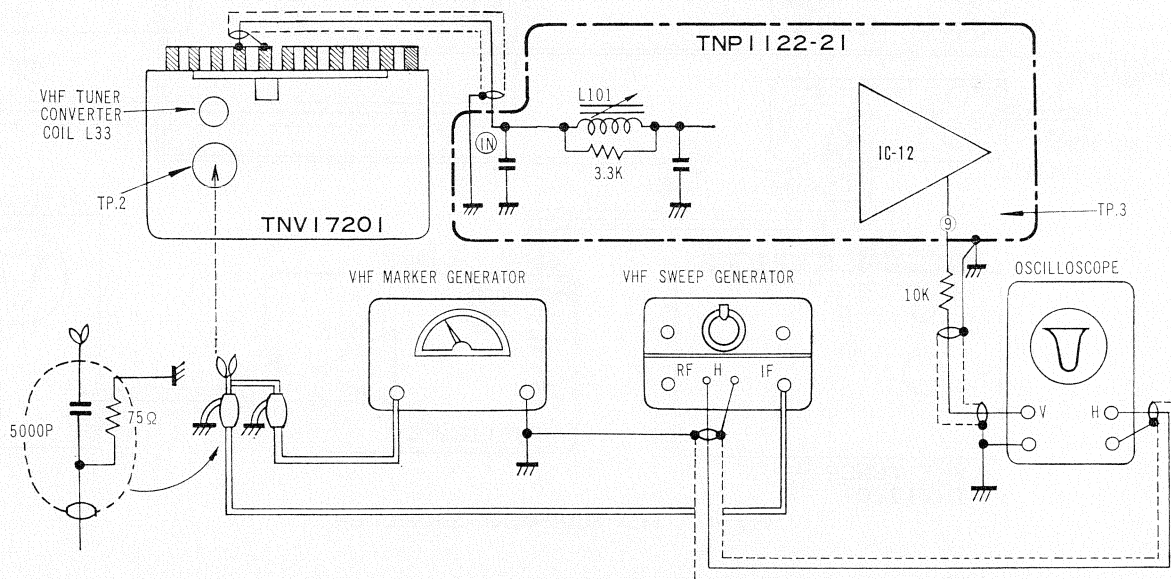

Fig. 4-1 TEST EQUIPMENT CONNECTIONS
(I) TEST EQUIPMENT CONNECTIONS (Fig. 4-1)
- Oscilloscope (V) Connect to the IC 12 ⑨ (TP. 3) with a 10K Ω resistor in series with the center wire of the shielded cable.
- (H) Connect to the Sweep Generator to obtain horizontal deflection.
- Sweep & Marker..... (1) Unsolder the junction of IC 16 terminal ④ and C155.
- (2) Apply AGC bias to the terminal T of the printed circuit board TNP 1121-21 through the AGC bias circuit.
- (3) Set the channel selector switch to VHF 2~4 and set the channel selector to the low end.
- (4) Connect the sweep and marker generators to the VHF tuner test point (TP. 2)